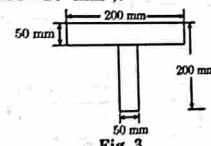

Fig. 3.
- c. A shearing force of 180 kN acts over a T-section shown in Fig. 3. Draw the shear stress distribution curve. (Take $I = 1.134 \times 10^8 \text{ mm}^4$).